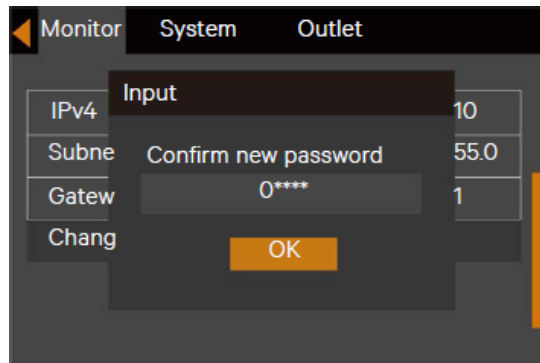

Figure 5-22 Confirming new password
5. After inputting the new password, press the  key to confirm it, then the system requires confirming the new password, see Figure 5-22.